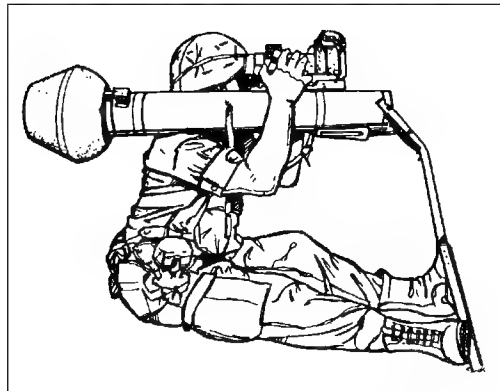

Figure 5-1. Sitting position.
a. **Sitting Position.** Demonstrate the sitting position, then have the soldiers assume the position also (Figure 5-1). Instruct them as follows:
(1) The sitting position is the most stable. Sit with your legs extended as far as possible. Place the notch of your boot heels on the bipod and push outward.